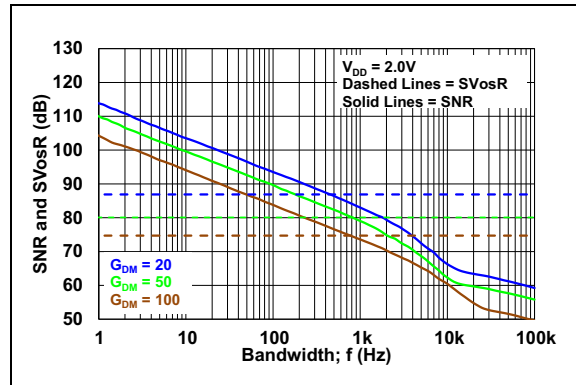
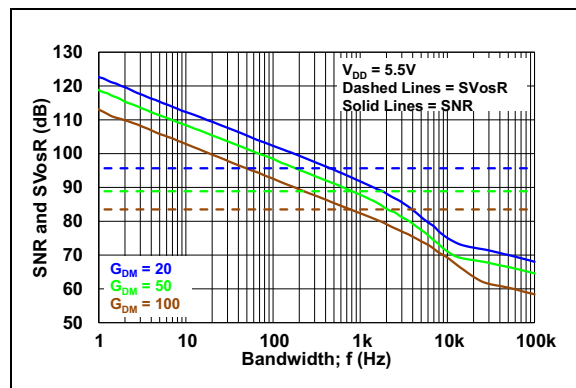

FIGURE 5-12: SNR vs. Bandwidth Estimates, $V_{DD} = 2.0V$.
FIGURE 5-13: SNR vs. Bandwidth Estimates, $V_{DD} = 5.5V$.
Figure 5-12 and Figure 5-13 show the device noise as a Signal-to-Noise ratio (SNR), assuming the signal is a full-scale sine wave (at V_{OUT}). The x-axis is the circuit's bandwidth (BW), to make it easy to evaluate a particular design.